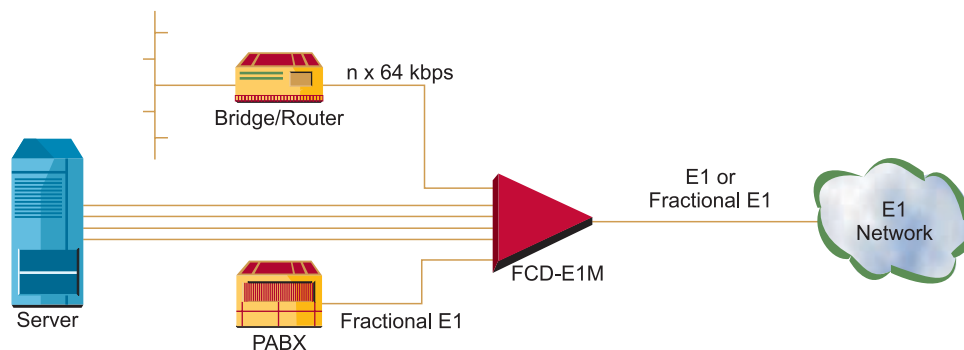

Figure 1. Connection of LAN Traffic together with PABX Traffic to E1 Network
- FCD-E1M serves as a dedicated access multiplexer for business customers, providing modular integration of voice and data traffic over E1 or Fractional E1 services (see *Figure 1*).